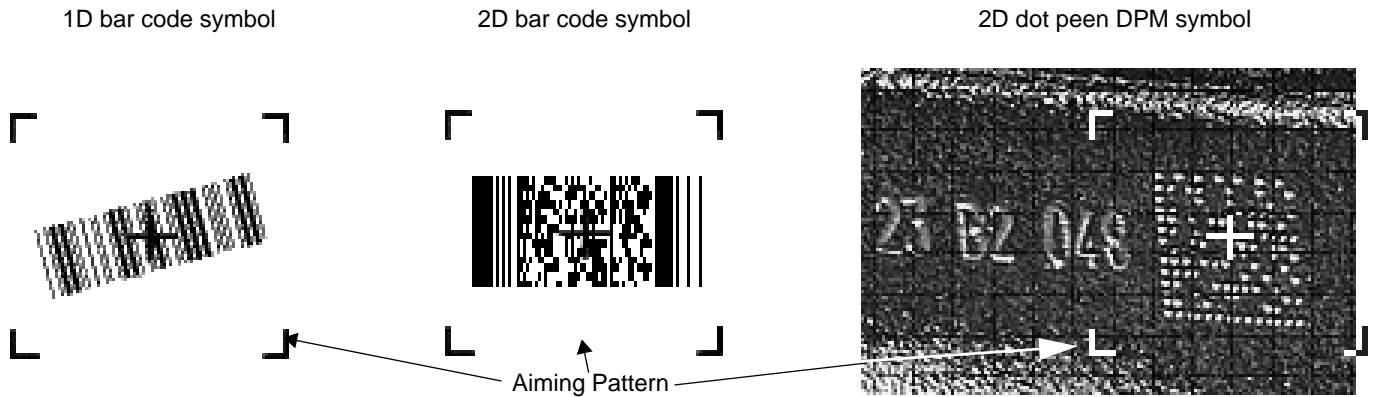

Figure 2-4 Centering Symbol in Aiming Pattern
- ✓ **NOTE** Scanning Direct Part Marks (DPMs) with the DS3407-DP (DPM) Digital Scanner: Due to the reflective nature of some surfaces used with DPMs (see Figure 2-4), for best performance when scanning DPMs with the DS3407-DP (DPM) digital scanner, tilt the scanner at an angle relative to the target (Motorola recommends 25-45 degrees). For example, when scanning a 23 mil dot peen mark with the scanner set to near focus, present the target between one and four inches from the nose of the scanner at a minimum tilt of 30 degrees.